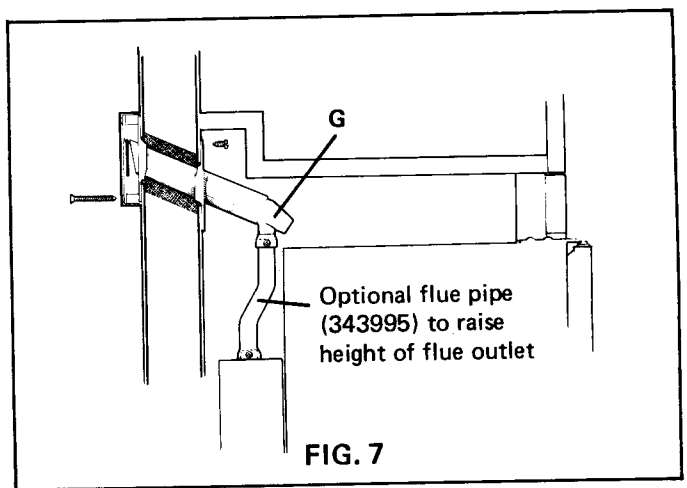

FIG. 7
Note: It is recommended that, where possible, the flue top (G) is fitted directly on top of the central tube of the boiler as shown in figs. 5 and 6. If, however, due to the shape or construction of the caravan wall, or other reasons, it is desired to raise the height of the flue outlet, the additional flue pipe (part No. 343995) may be fitted to the top of the central tube of the boiler (secured by a screw), and the flue top (G) then fitted to the top of this flue pipe as illustrated in fig.7. This will raise the height of the flue outlet in the wall of the caravan by approximately 120mm (4 3/4 inch).